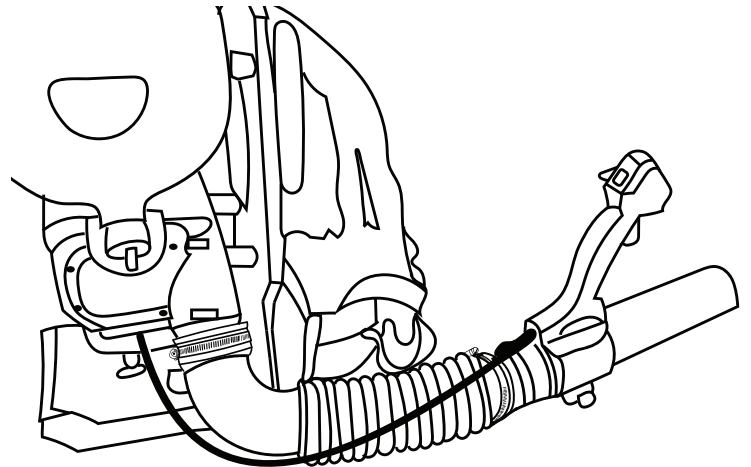

FIGURE 3
4.2.3 Slide the throttle control handle over the connecting pipe and secure in place with the screw and a phillips head screwdriver. **FIGURE 3.**